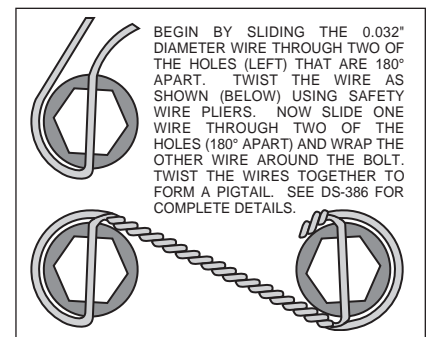

Figure 5. Safety Wire Diagram
- With the larger I.D. side of the rotor (4) facing away from the hat (3), bolt rotor (4) to hat (3) through the backside of the rotor using washers (5) and bolts (6). Using an alternating sequence, apply red *Loctite*® 271 to the threads and torque bolts to 140 in-lb. For an added measure of security, the bolts may be safety wired using standard 0.032 inch diameter stainless steel safety wire as shown in Figure 5. Please refer to Wilwood's data sheet DS-386 (available at [www.wilwood.com/Pdf/DataSheets/ds386.pdf](http://www.wilwood.com/Pdf/DataSheets/ds386.pdf)) for complete safety wire installation instructions.